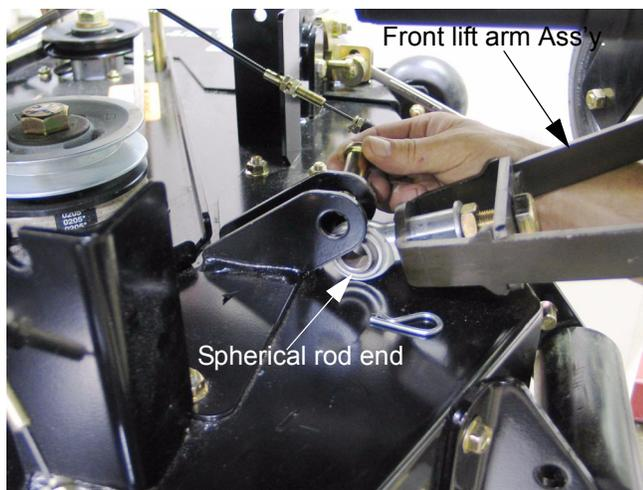

Figure 7.11
- 7.11. Remove the hairpin clip and clevis pin that secure the front of the cutting deck to the spherical rod end on the front lift arm assembly. See Figure 7.11.